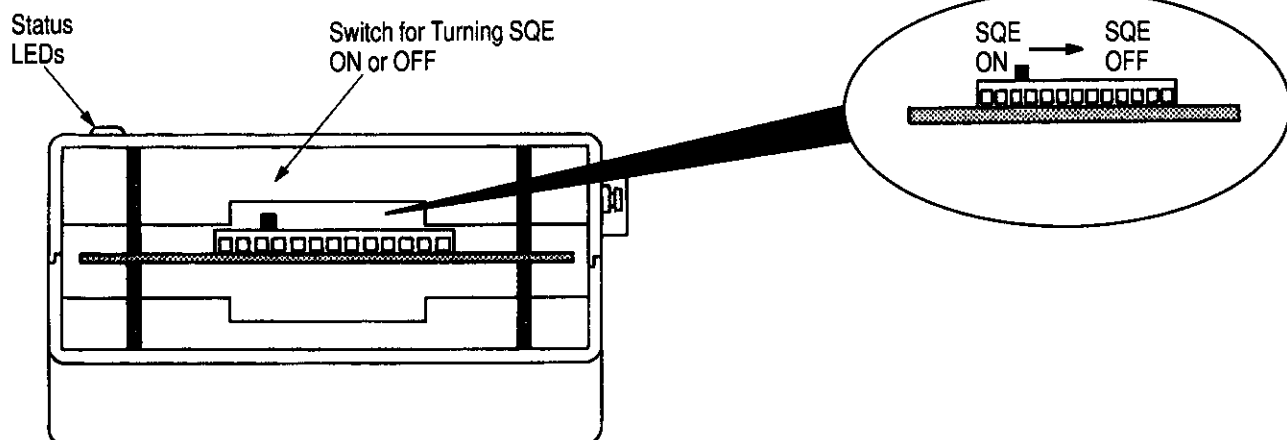

Figure 3
4. Move the switch to the appropriate position to turn the SQE test signal "on" or "off" as shown in Figure 3.